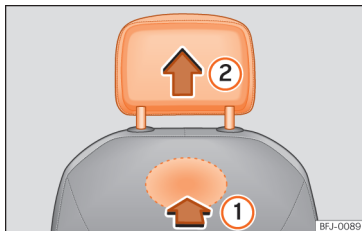

Fig. 144 Front head restraint: removal.
- To unlock it, look for the rabbit on the bottom of the backrest and press in the direction of the arrow »» Fig. 144 **1**.